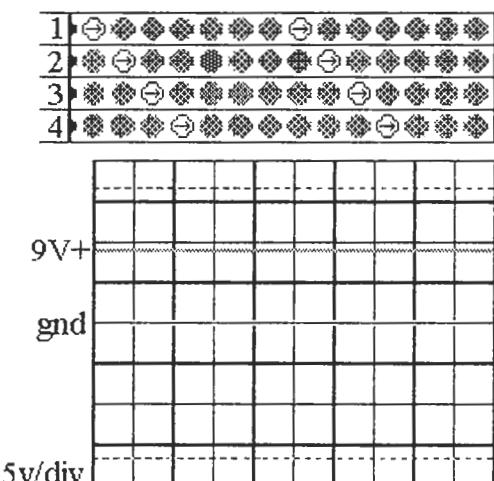

Figure L49-1
We always hear the terms *direct current* (DC) and *alternating current* (AC). Direct current means that the current in the system is always flowing in one direction. Electronics depends on direct current. Naturally, flowing water has been a good comparison for positive DC voltage V_+ . Water always flows in one direction—downhill, toward the lowest point. Direct current is easily generated by chemical reactions in batteries. Figure L49-1 shows positive movement of electrons while the scope shows the voltage is above